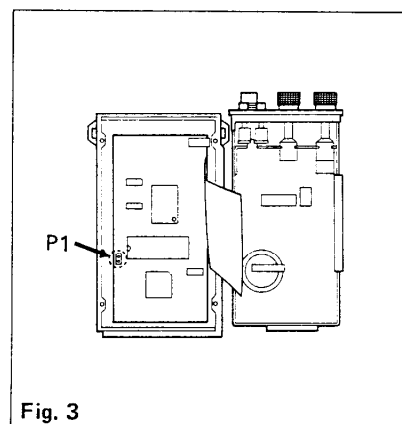

Fig. 3
- 2) Unplug P1 on the LOGIC UNIT. (Fig. 3)